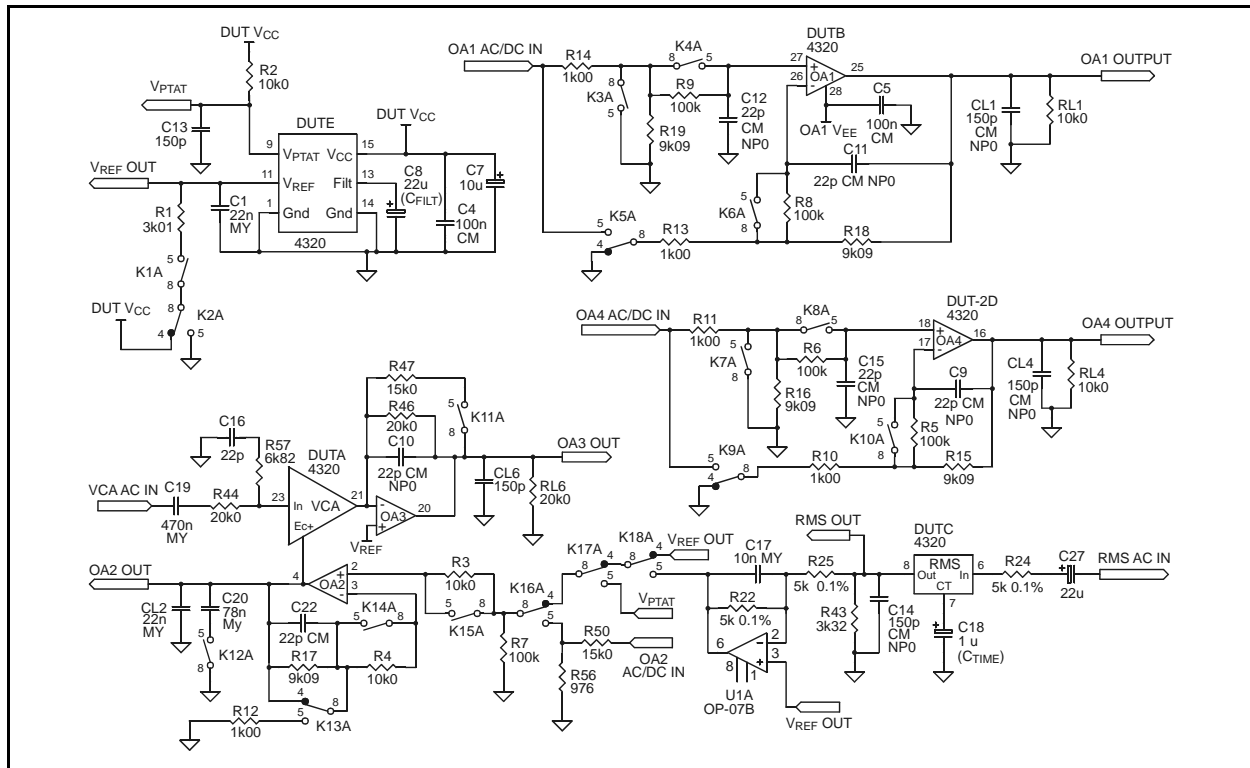

Figure 2. 4320 Test Circuit Schematic (QSOP-28 pin assignments shown)
Input signals are currents in the VCA's IN pin. This pin is a virtual ground with dc level approximately equal to V_{REF} , so in normal operation an input voltage is converted to input current via an appropriately sized resistor (R_{44} in Figure 2, Page 6). Because the currents associated with dc offsets present at the input pin and any dc offset in preceding stages will be modulated by gain changes (thereby becoming audible as thumps), the input pin is normally ac-coupled (C_{19} in Figure 2).
The VCA output signal is also a current, inverted with respect to the input current. In normal operation, the output current is converted to a voltage via inverter OA_3 , where the ratio of the conversion is determined by the feedback resistor (R_{46} or R_{47} , Figure 2) connected between OA_3 's output and its inverting input. The signal path through the VCA and OA_3 is noninverting.
5) The OTA used for the VCA's internal opamp in the 4320 uses less emitter degeneration resistance in its output than that of the 2180 VCA. This requires that the source impedance at the VCA's input (which is a summing junction) must be under 5 k Ω at frequencies over 1 MHz. In Figure 2, C_{16} and R_{57} accomplish this. See the applications section for an alternative on how to address this issue.
As in the VCA, input signals are currents to the RMS IN pin. This input is a virtual ground with dc level equal to V_{REF} , so a resistor (R_{24} in Figure 2) is normally used to convert input voltages to the desired current. The level detector is capable of accurately resolving signals well below 10 mV (with a 5 k Ω input resistor). However, if the detector is to accurately track such low-level signals, ac coupling is normally required (C_{27} in Figure 2). Note also that small, low-voltage electrolytic capacitors used for this purpose may create significant leakage if they support half the supply voltage, as is the case when the source is dc-referenced to ground. To